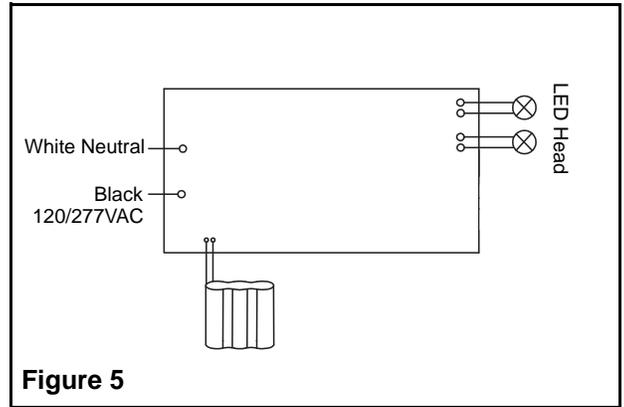

Figure 5
4. Make the proper connections (see figure 5):